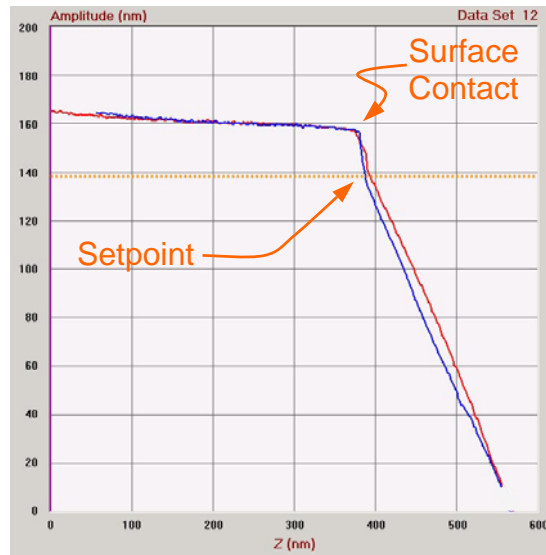

Figure 10-11 The SPM setpoint displayed against a vibration amplitude curve.
2. In the *Indent* tab panel, select the *Amplitude (μm)* option in the *Data* list. Perform a single indentation measurement to produce a data graph similar to Figure 10-11. The settings shown in Table 10-6 were used to produce this result with a NSC16 cantilever. Notice how the *Limit* control was used to end the loading segment of the measurement when the amplitude reached 10 nm. Usually *Limit* will be set to 10-50 nm to prevent the cantilever tip from being over-stressed.
3. Select the *Graph* tab panel and check the *Show Setpoint* checkbox. A horizontal orange line will be overlaid on the graph to indicate the current setpoint value. This is also shown in Figure 10-11. It may be necessary to change the vertical scale of the graph if the current setpoint position is higher than the range of the amplitude measurement.
where the Free Amplitude is the amplitude of vibration when the probe just begins to contact the sample surface. For example, in Figure 10-11